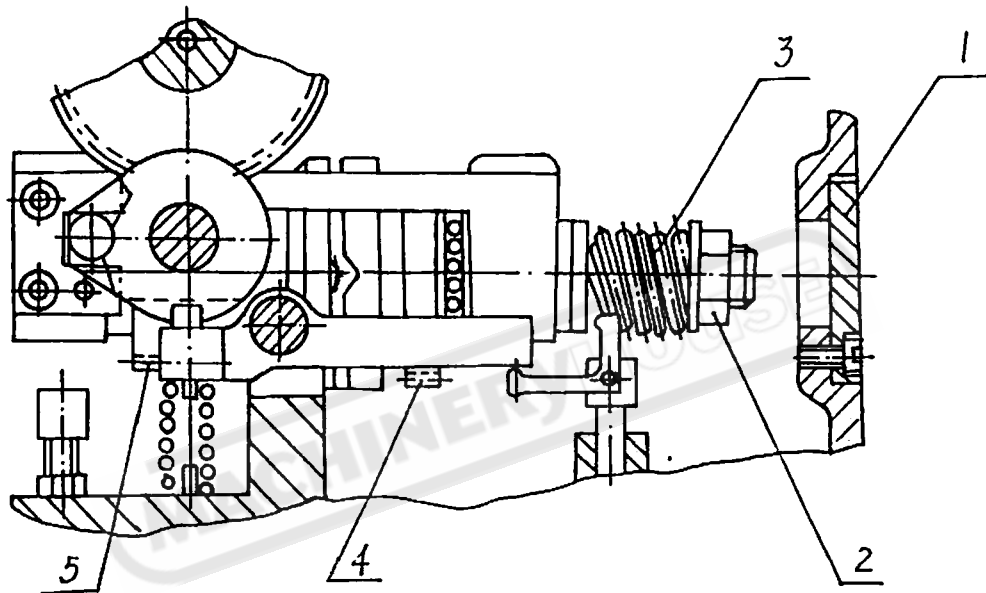

Fig: 7
A over load clutch is fitted in apron. In case of over load, the worm (5, Fig. 7) stop rotating, but the gear (4, Fig. 7) continue rotating. The over load clutch jumps away automatically and depress the spring (3, Fig. 7). As a result, the worm is disengaged from the worm gear and auto-feed is off.
1. Remove the end cover (1, Fig. 7)
2. Properly adjust the nut (2, Fig. 7). (Note: do not over tighten)
3. Tighten the end cover (1, Fig. 7) again.